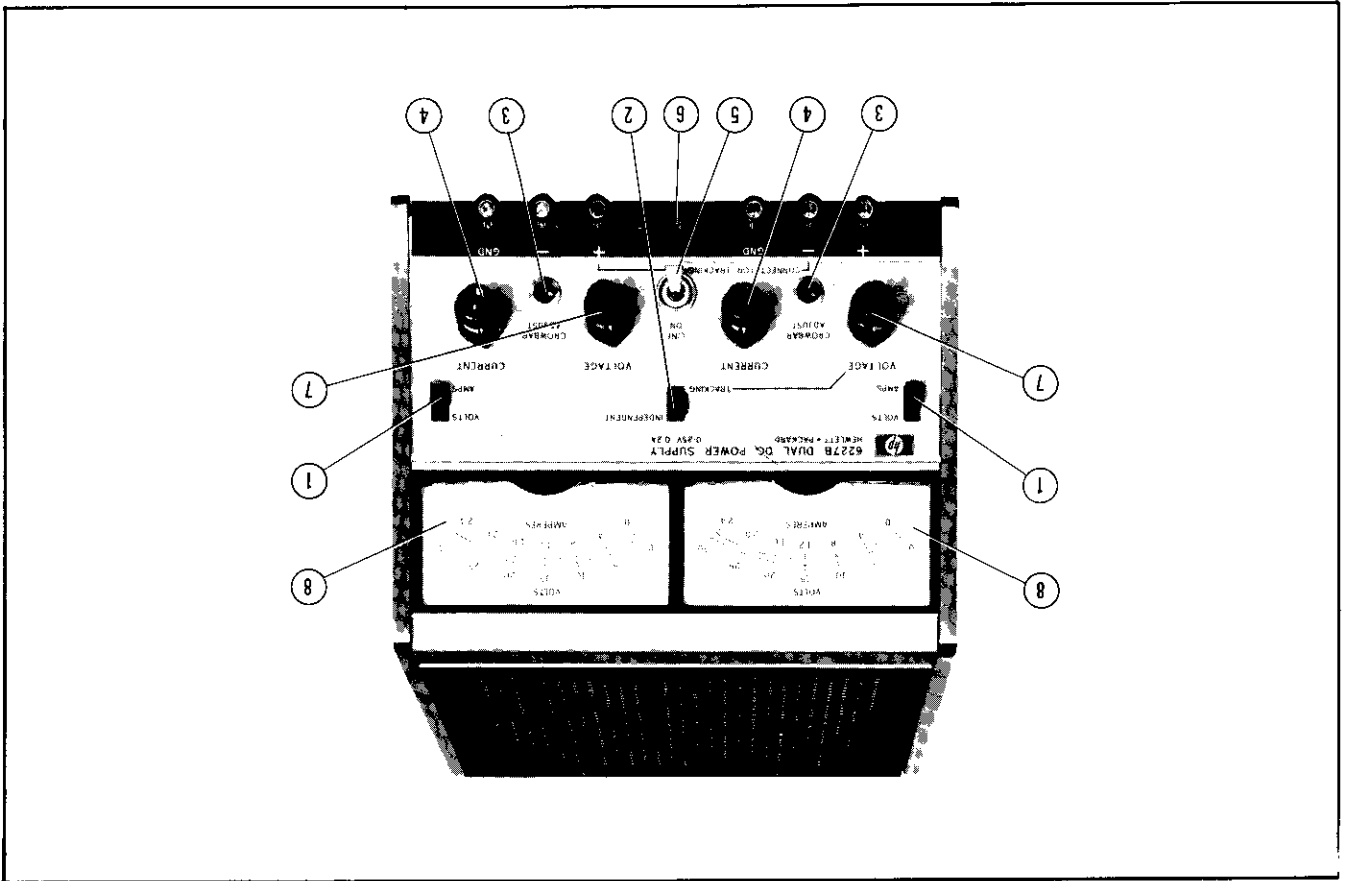

Figure 3-1. Operating Controls and Indicators
- 3-2 The following checkout procedure describes the use of the front panel controls and indicators (Figure 3-1) and ensures that the supply is operational. This procedure should be performed with no load connected to the supply.
- Set both meter switches ① to VOLTS.
- Set mode switch ② to INDEPENDENT, rotate both CROWBAR ADJUST controls ③ (screwdriver adjust) fully clockwise, and rotate both sets of CURRENT controls ④ to middle of range (black knobs are coarse controls, red knobs are fine controls).
- Set LINE switch ⑤ to ON, and observe that pilot lamp ⑥ lights.
- Adjust both sets of VOLTAGE controls ⑦ (black knobs are coarse controls, red knobs are fine controls) until desired output voltages are indicated on meters ⑧.